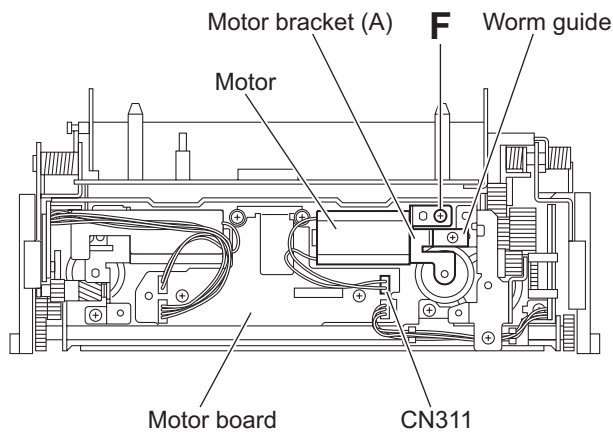

Fig.12
3.2.5 Removing the worm gear, motor bracket (A) and third worm (See Figs.12 to 16)
- (1) Disconnect the wire from the connector CN311 on the motor board. (See Fig.12.)
- (2) Remove the screw **F** attaching the motor bracket (A). (See Fig.12.)
- (3) Take out the motor bracket (A), worm guide and motor together. (See Fig.12.)